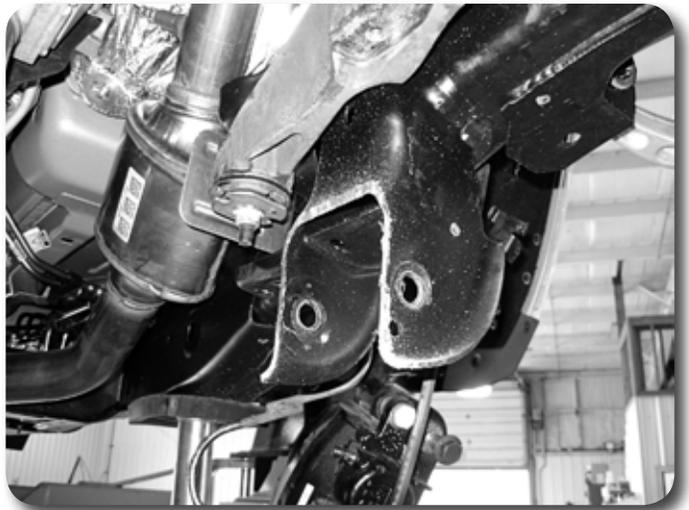

Figure 15
28. With the vertical cuts complete, cut the top portion of the pocket by connecting the two cuts Figure 15.